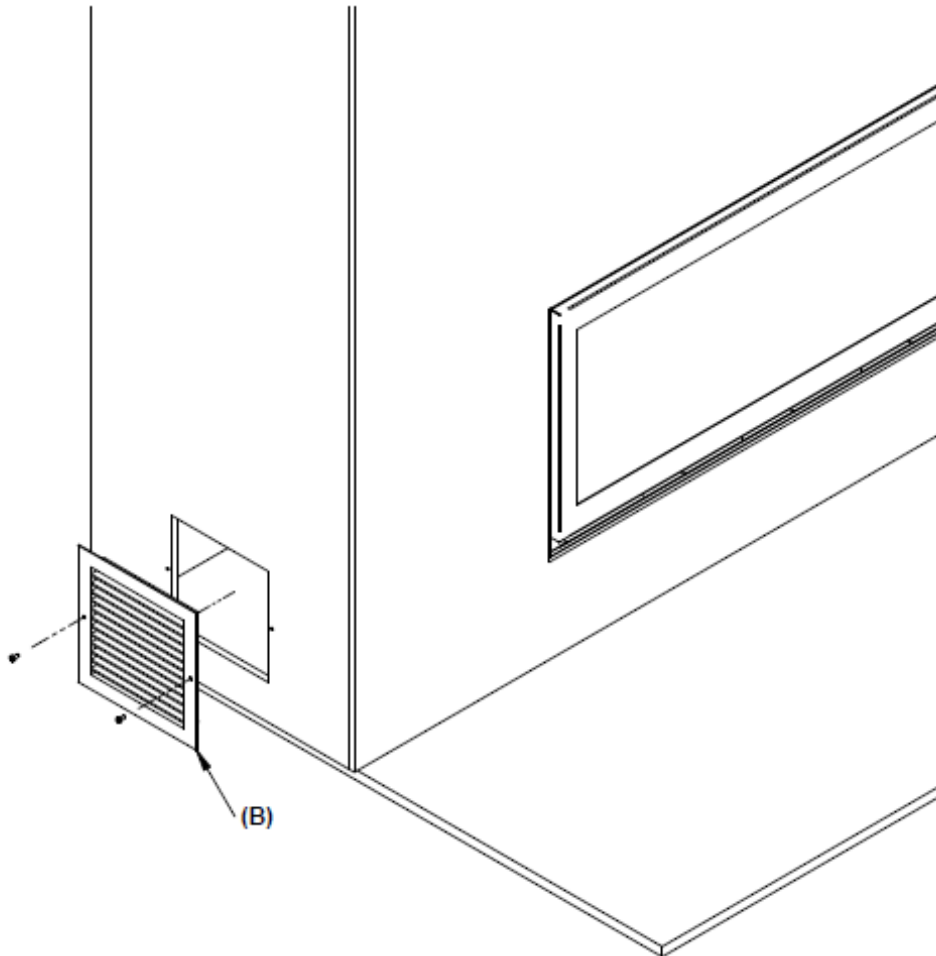

Figure 12 : Air intake grille installation
1. Drill holes in the finishing material following dimensions on Figure 12.